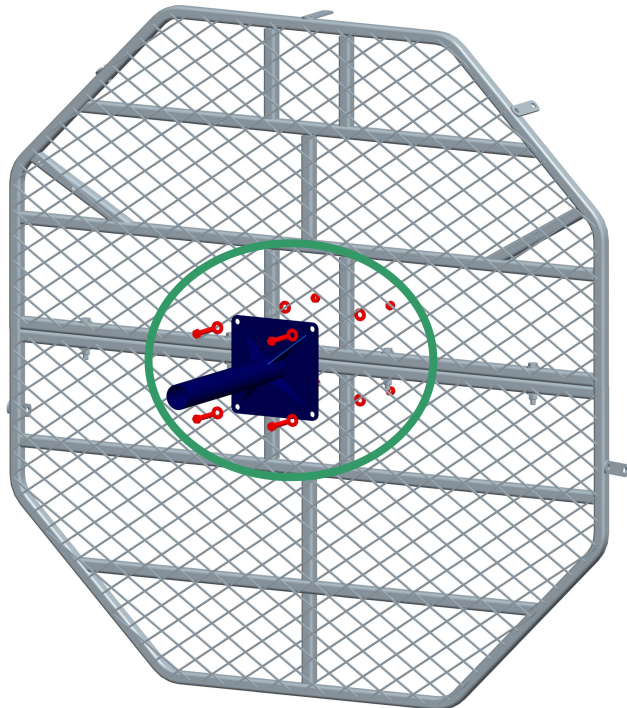

Figure 2
Locate the Lower Seat Post (#3). Install the Lower Seat Post (#3) onto the assembled Platform using four (4) M8x45 Bolts, eight (8) Steel Washers and four (4) Locknuts as shown in Figure 2.